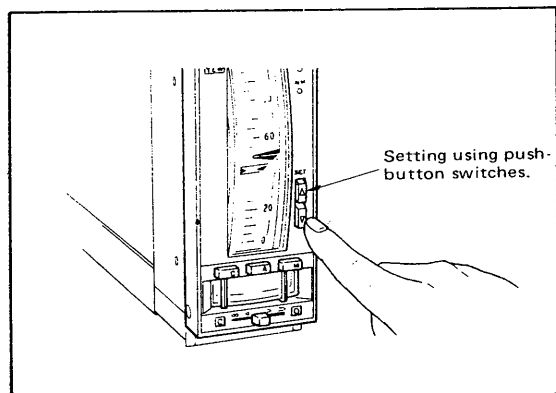

Figure 5-3-3. Adjusting Set Value.
- (c) Set the desired value using the SET pushbutton switches. (Figure 5-3-3).